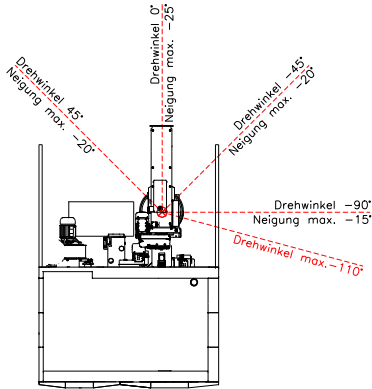

Fig. 1
- 2.) When setting up the boiler, be aware that the fuel auger is mounted on the right-hand side of the boiler (viewed from above) and the auger can only be set at an angle of approx. 0° to 45° or 0 to -90° (max. 110°) (see Fig. 1).
- 3.) The storeroom should not be significantly lower down than the boiler room (no more than 20 - 30 cm). The maximum possible inclination angles for the outfeed auger are shown in Fig. 1. If the fuel auger slopes steeply downwards, the storeroom should be adapted to the slope of the agitator.